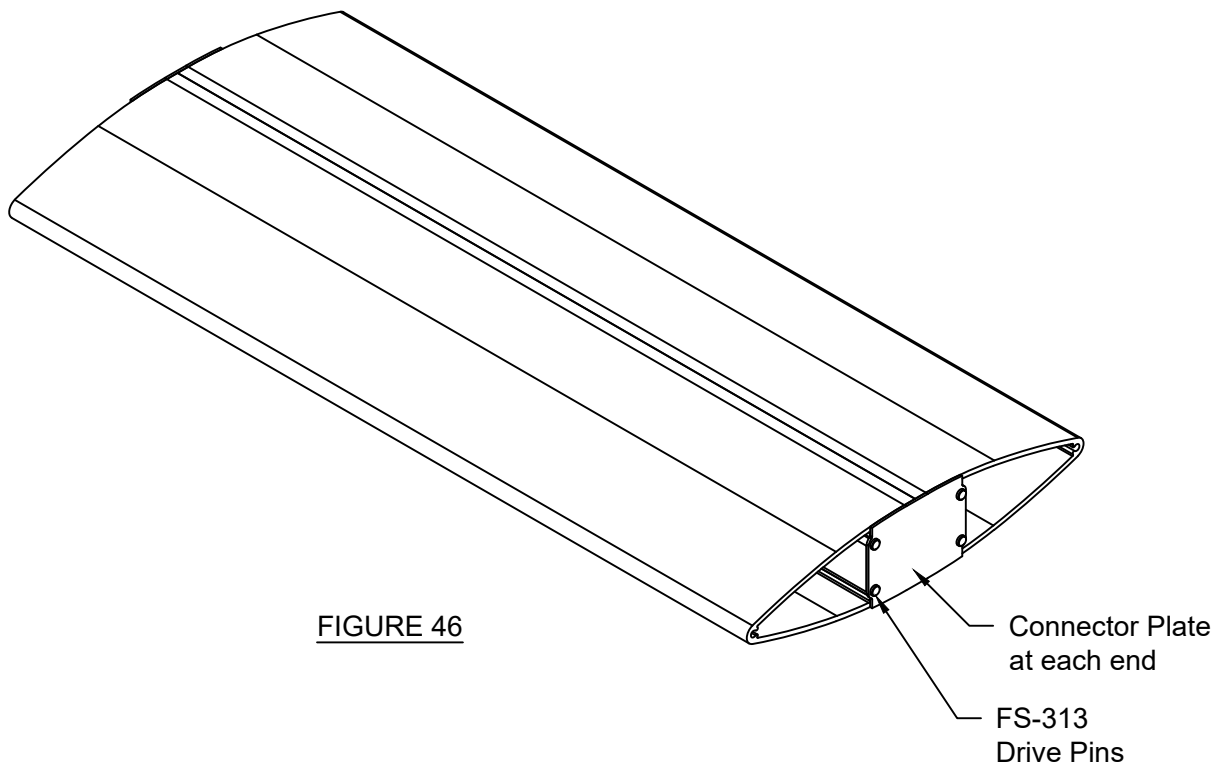

FIGURE 46
- 6) Assemble each blade section and attach a connector plate to each end using FS-313 Drive Pins. Maximum length of each section will be approximately 10 foot or per Engineer's review. There should be only one rigid mount at center of each blade section with splice at each end. SEE FIGURE 46.